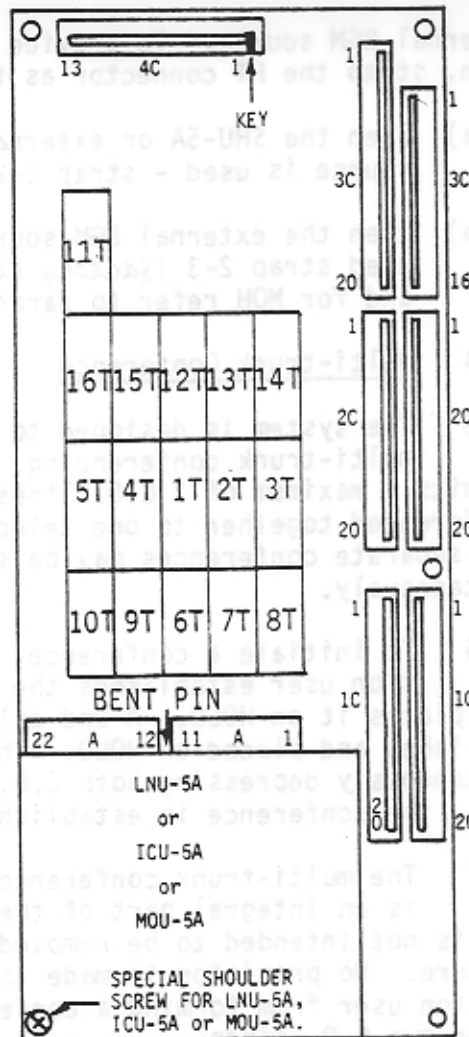

Figure 8 - CMI-5A Abbreviated Card Layout
on the CMI-5A card. Refer to figure 8 for orientation and holding detail. Note the position of the BENT PIN on the card and on figure 8.
6.61 The MOU-5A is installed simply by plugging it into the "A" connector on the CMI-5A card. Refer to figure 8 for orientation and holding detail. Note the position of the BENT PIN on the card and on figure 8.
6.55 The LNU-5A is installed simply by plugging it into the "A" connector on the CMI-5A card. Refer to figure 8 for orientation and holding detail. Note the position of the BENT PIN on the card and on figure 8.